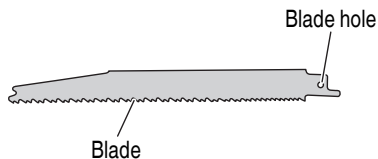

Fig. 7
**Do not use any saw blade with a worn-out blade hole. Otherwise, the saw blade can come off, resulting in personal injury. (Fig. 7)**